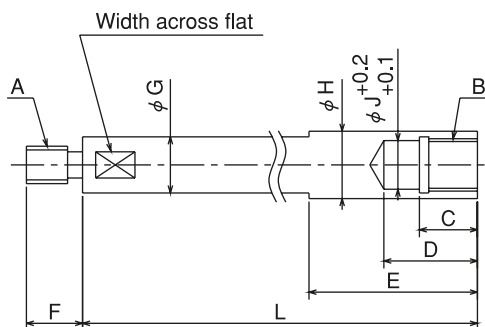

Fig. 12
- Keep the dimension H in Fig. 12 for the draw bar and a material with the tensile strength 380MPa (38kgf/mm2) or more must be used.